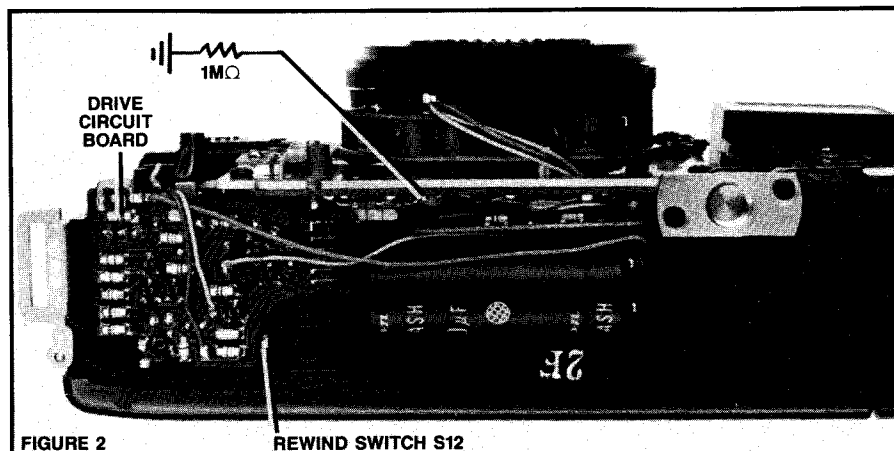
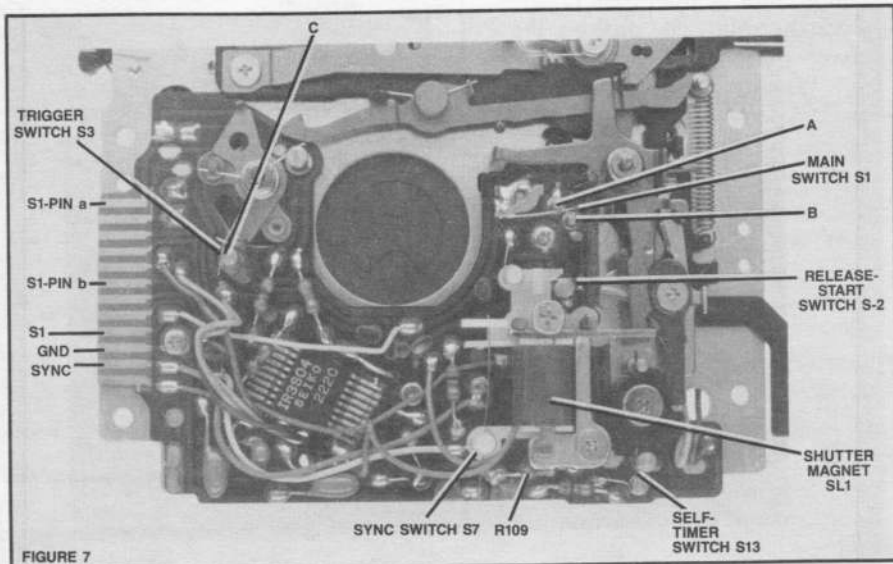

FIGURE 2
FIGURE 7
- Fig. 2— bottom view, covers removed
- Fig. 7— shutter block, back view
- c. Connect a test lead to the end of R109 (the resistor, Fig. 7, is visible through the slot at the bottom of the camera after removing the serial-number plate). Connect a 1M resistor to the other end of the test lead as indicated in Fig. 2.
1. Test the auto exposure before replacing the shutter-block screws. Hold the shutter block firmly against the camera body. Apply 2.8V to the battery terminals. Check the auto exposure at EV 9, EV 11, and EV 15 (ASA 100). The exposures should be within 0.8 EV. If not, lift aside the shutter block and adjust the trigger switch (eccentric C, Fig. 7).
5. Shutter block. To check the shutter circuit with the shutter block removed, solder a wire to the S1 blade contact, Fig. 7. Connect 2.8V between the wire (positive) and ground (shutter-base plate). Cock the shutter by pushing the charge plate, Fig. 4, from right to left. When you push the release, the shutter should time out.
replace the batteries—but then fails to release a second time—remove the shutter block. Check for a solder bridge between the S1 contact and the b pin, Fig. 7. Main switch S1, poor contact to b pin
Check the coil resistance between the two red wires, Fig. 7. Approximate resistance—200 ohms. Also check the magnet adjustment. If the magnet sits too low, its core may not make adequate contact with the armature. Loosen the magnet screw and shift the shutter magnet closer to the armature.
Check for a loose ground screw on the shutter board, Fig. 7.
Check for poor contact to the trigger switch, Fig. 7.